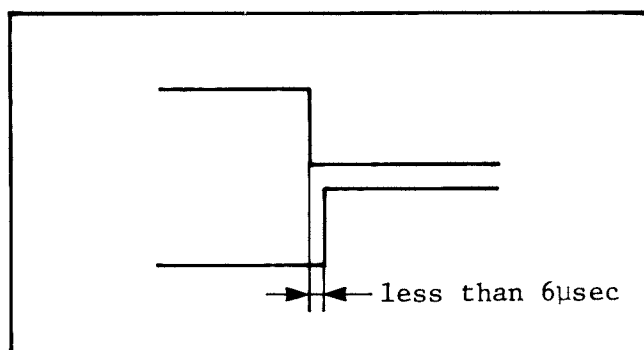

Fig. 2-4-10. PG SHIFTER
13. Switch the slope selector on the scope to either + (plus) or - (minus) then adjust VR13 (PG SHIFTER B) so that the difference between the rising and falling edges of the switching pulse is less than $6\mu\text{sec}$ as shown in Fig. 2-4-10.
Test Points: TP5, TP6 on the HEAD CONNECTOR C.B.A., as shown in Fig. 2-4-10.